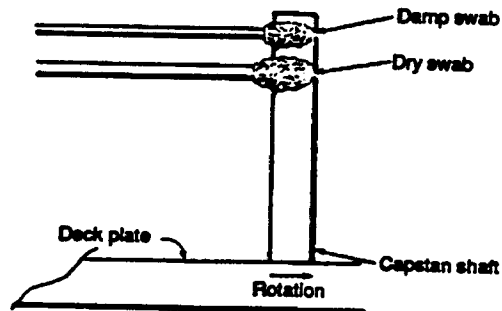

Figure 6-3. Recommended Cleaning Swab Placement
STEP 6 As shown in Figure 6-3, place two swabs (the upper swab moistened with the cleaning solution and the lower swab dry) onto the spinning capstan shaft.